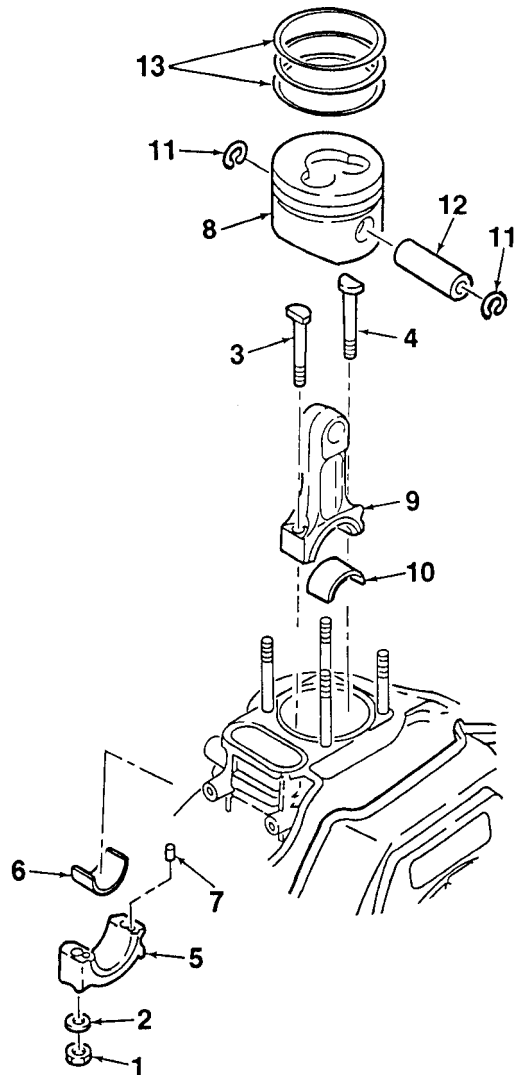

Figure 5-12. Piston and Connecting Rod Removal
1. Remove connecting rod nuts (1, Figure 5-12) and washers (2) from rod bolts (3, 4).
2. Remove connecting rod cap (5) and lower bearing half (6) from crankshaft journal. Remove pins (7) only if replacement is required.
3. Rotate crankshaft to the top of its stroke so that piston (8) rises out of cylinder block. Remove assembled piston (8) and connecting rod (9) from crankcase. Remove upper bearing half (10).
2. Remove carbon deposits from ring grooves of piston (8, Figure 5-12) by scraping with discarded ring. Rinse with cleaning solvent and allow to air dry.
3. Remove carbon deposits from top of piston (8). Use care to prevent scratching of surface.
1. Inspect piston (8, Figure 5-12) and connecting rod (9) for cracks, deformation, or obvious damage. Inspect for uneven or excessive wear. Replace component if any damage is suspected.